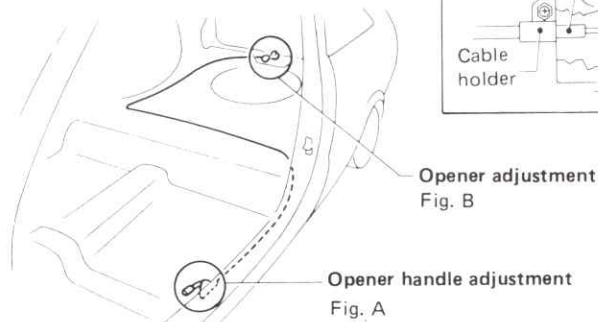

Fig. 11.1 Components of the tailgate remote release mechanism (Sec 12)
- 3 Adjust the release lever end as shown in Fig. 11.1, so that there is between zero and 1 mm slack between the cable end and the release lever.